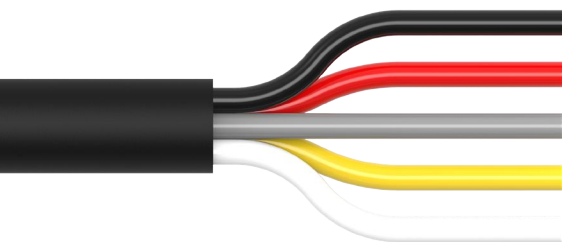

FIG. 5
1. Plug the provided 5 Core Pigtail (C) into the switch connector on the Main Harness (A). See Fig. 5 for individual wire functions.